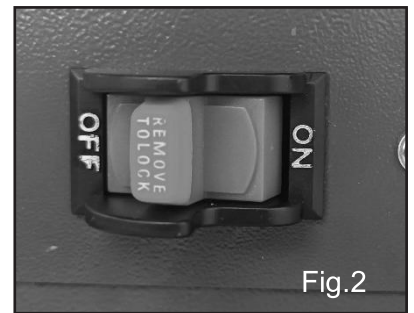

Fig.2
2. To start the machine, press the red button marked "ON" (fig.2).
3. To stop the machine, press the red button marked "OFF" (fig. 2).